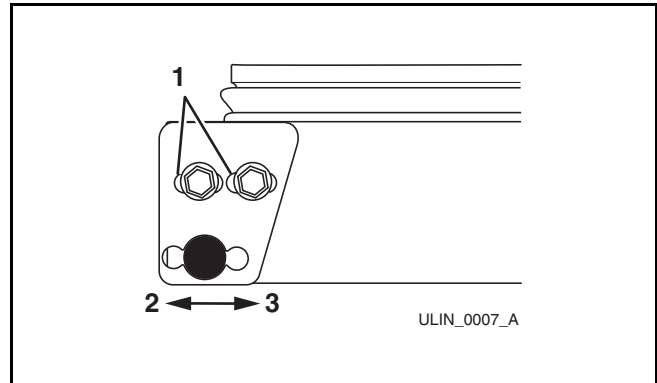

Figure 15
- Your plate has slotted mounting holes (**Figure 15, 1**). Loosen but do not remove the two hinge plate screws.
4. If door edge opposite the hinges needs to move up, move plate toward outside of door (**Figure 15, 2**). If door edge needs to move down, move plate toward inside of door (**Figure 15, 3**). Repeat until top edge of door is parallel with top of cabinet and tighten screws securely (**Figure 15, 1**).